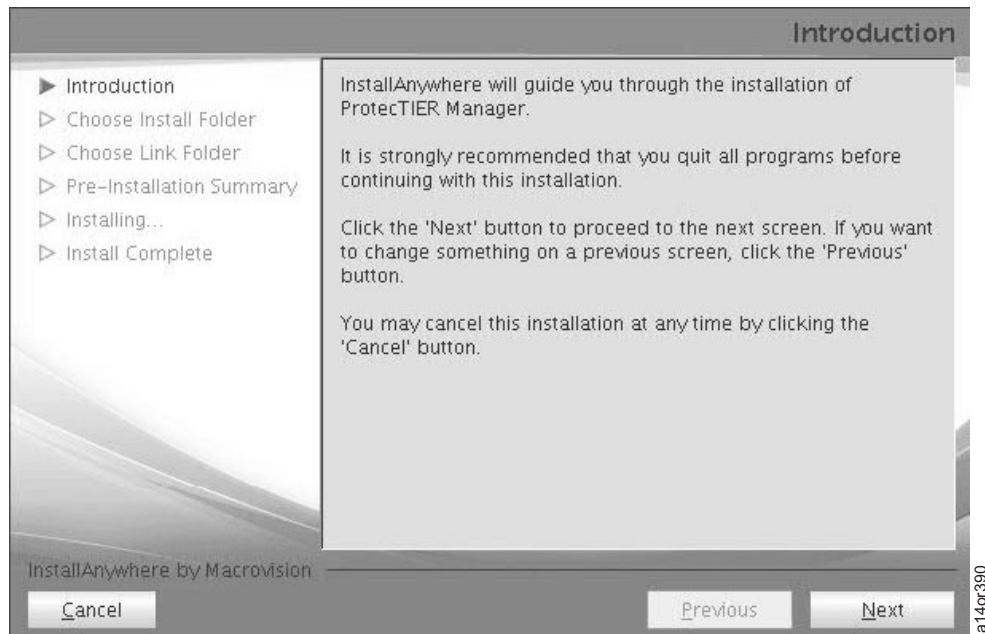

Figure 2-89. Introduction to ProtecTIER GUI Manager InstallAnywhere Screen
3. You see the Introduction screen in Figure 2-89 on page 2-57. Click **Next**.